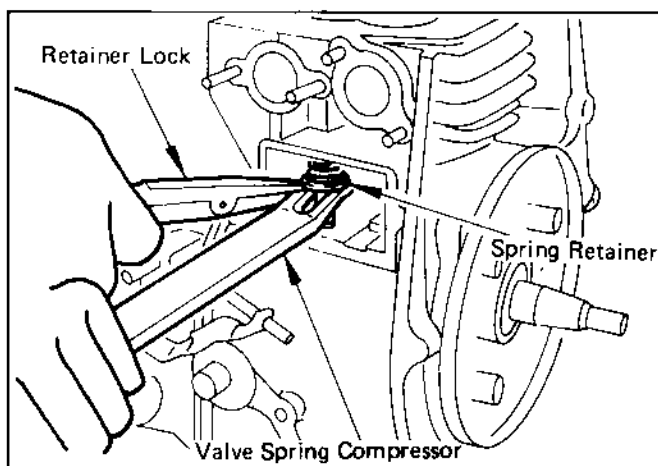

Fig. 6-3-2
- 2) Lift valve spring by means of compressor tool (valve spring compressor) and remove retainer locks and valves. Proceed in the same way both for intake valve and exhaust valve. (See Fig. 6-3-2)